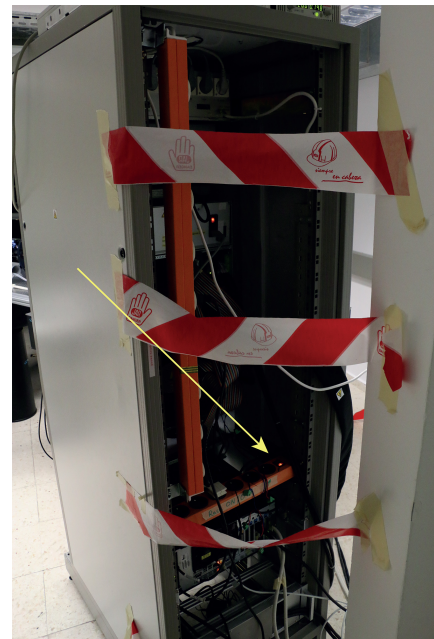

Fig. 1: GREGOR AO control cabinet. The arrow points to the switch that the assistant shall operate.
Only the high voltage (HV) amplifier for the deformable mirror (DM) and the tip-tilt mirror (TT) needs to be switched on/off every day (see Fig. 1). Please make sure that the HV amplifier is switched on BEFORE starting the AO software.